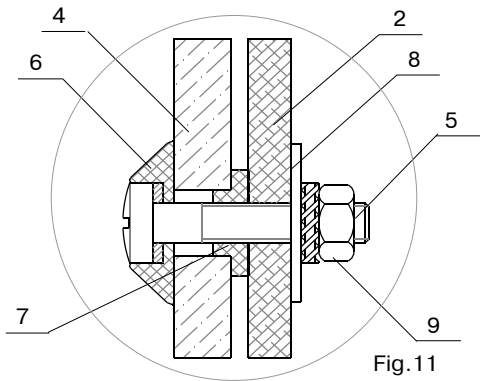

Fig. 11
3. Install windglass 4 on the upper part of the console body 1 with the help of bolts 5 (M6x40), polyethylene washers 6 and 7, washers 8, arrester washers 9 and nuts 10 (M6) (See Fig.11, 12). Tighten all the nuts.